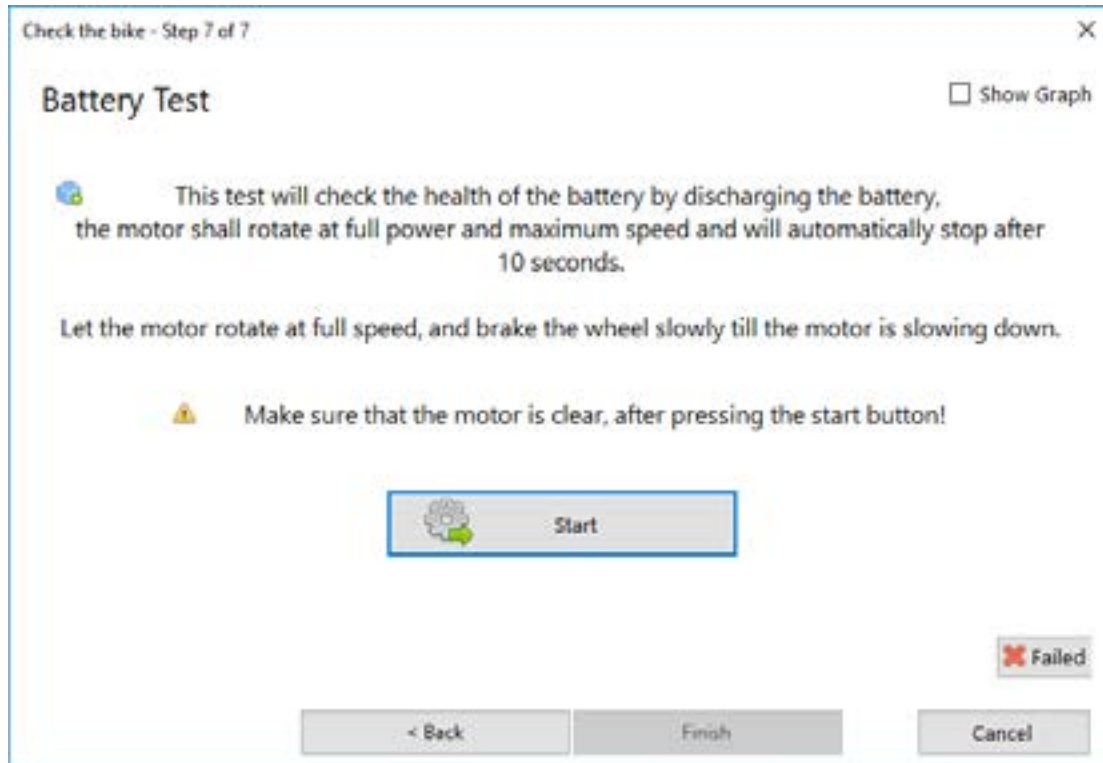

Figure 3.57 Battery test – loading
7. **Battery test** – The battery is subjected to a load test. After clicking on “Start” (Fig. 3.57) and a short delay, the motor starts.